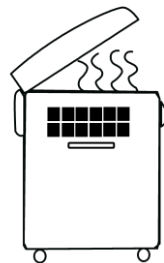

Fig. 22
3. After the operation, please do not take the items immediately after opening the lid to avoid burns by the steam from the pot (see **Fig.22**).